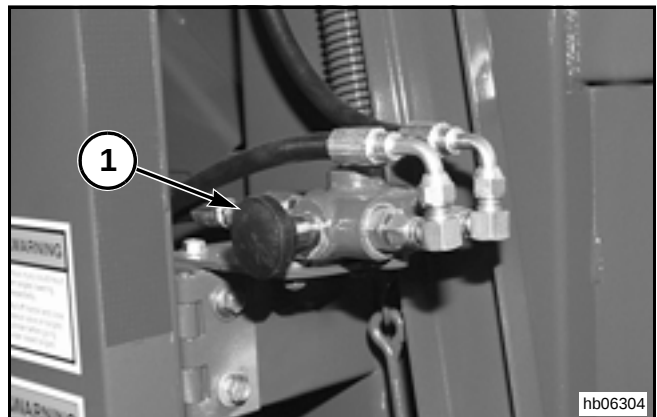

FIG. 22
FIG. 22: When the tailgate is raised for any maintenance or service work, push the lockout valve (1) into the LOCKED position to prevent the tailgate from being lowered. The tailgate can only be lowered when the tailgate lockout valve is released (pulled out).